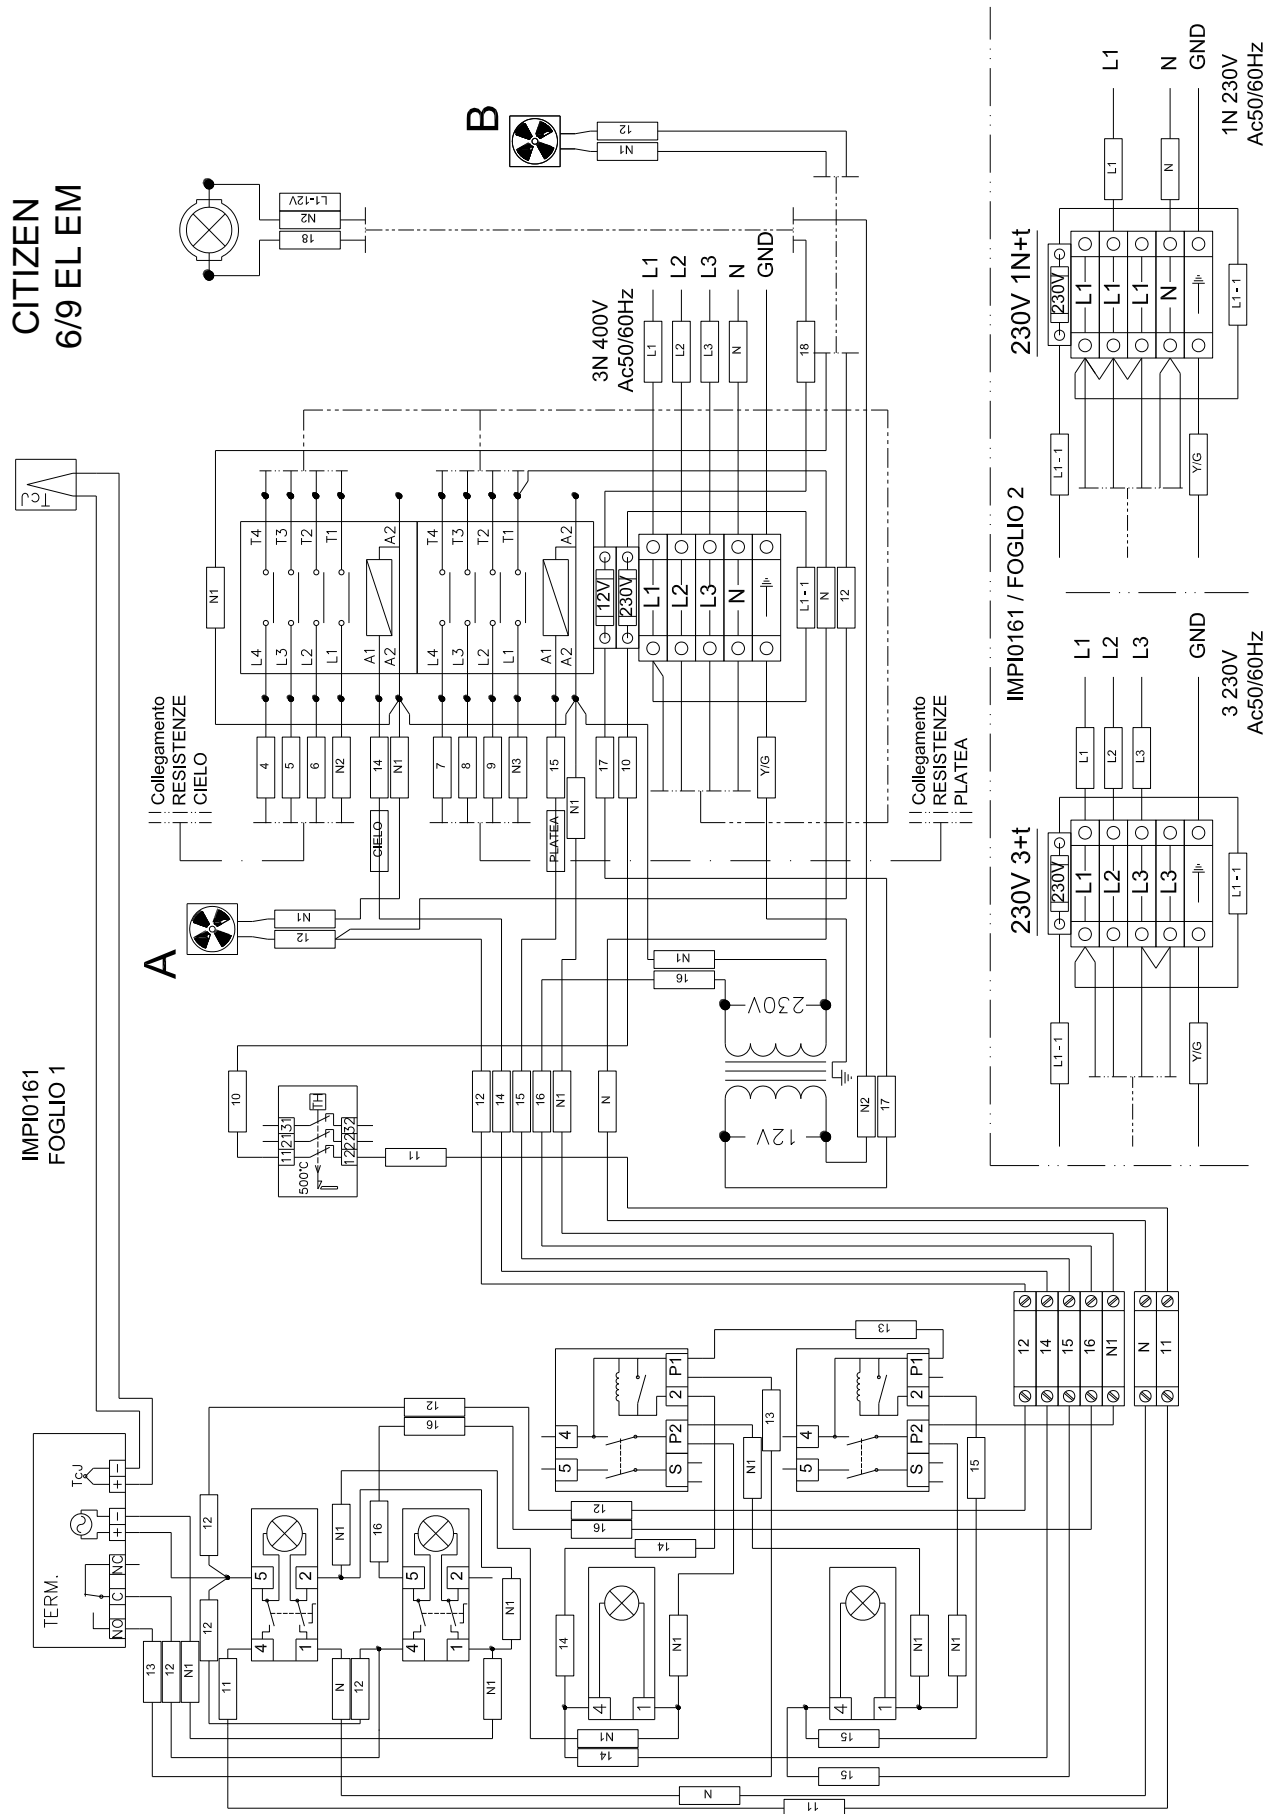
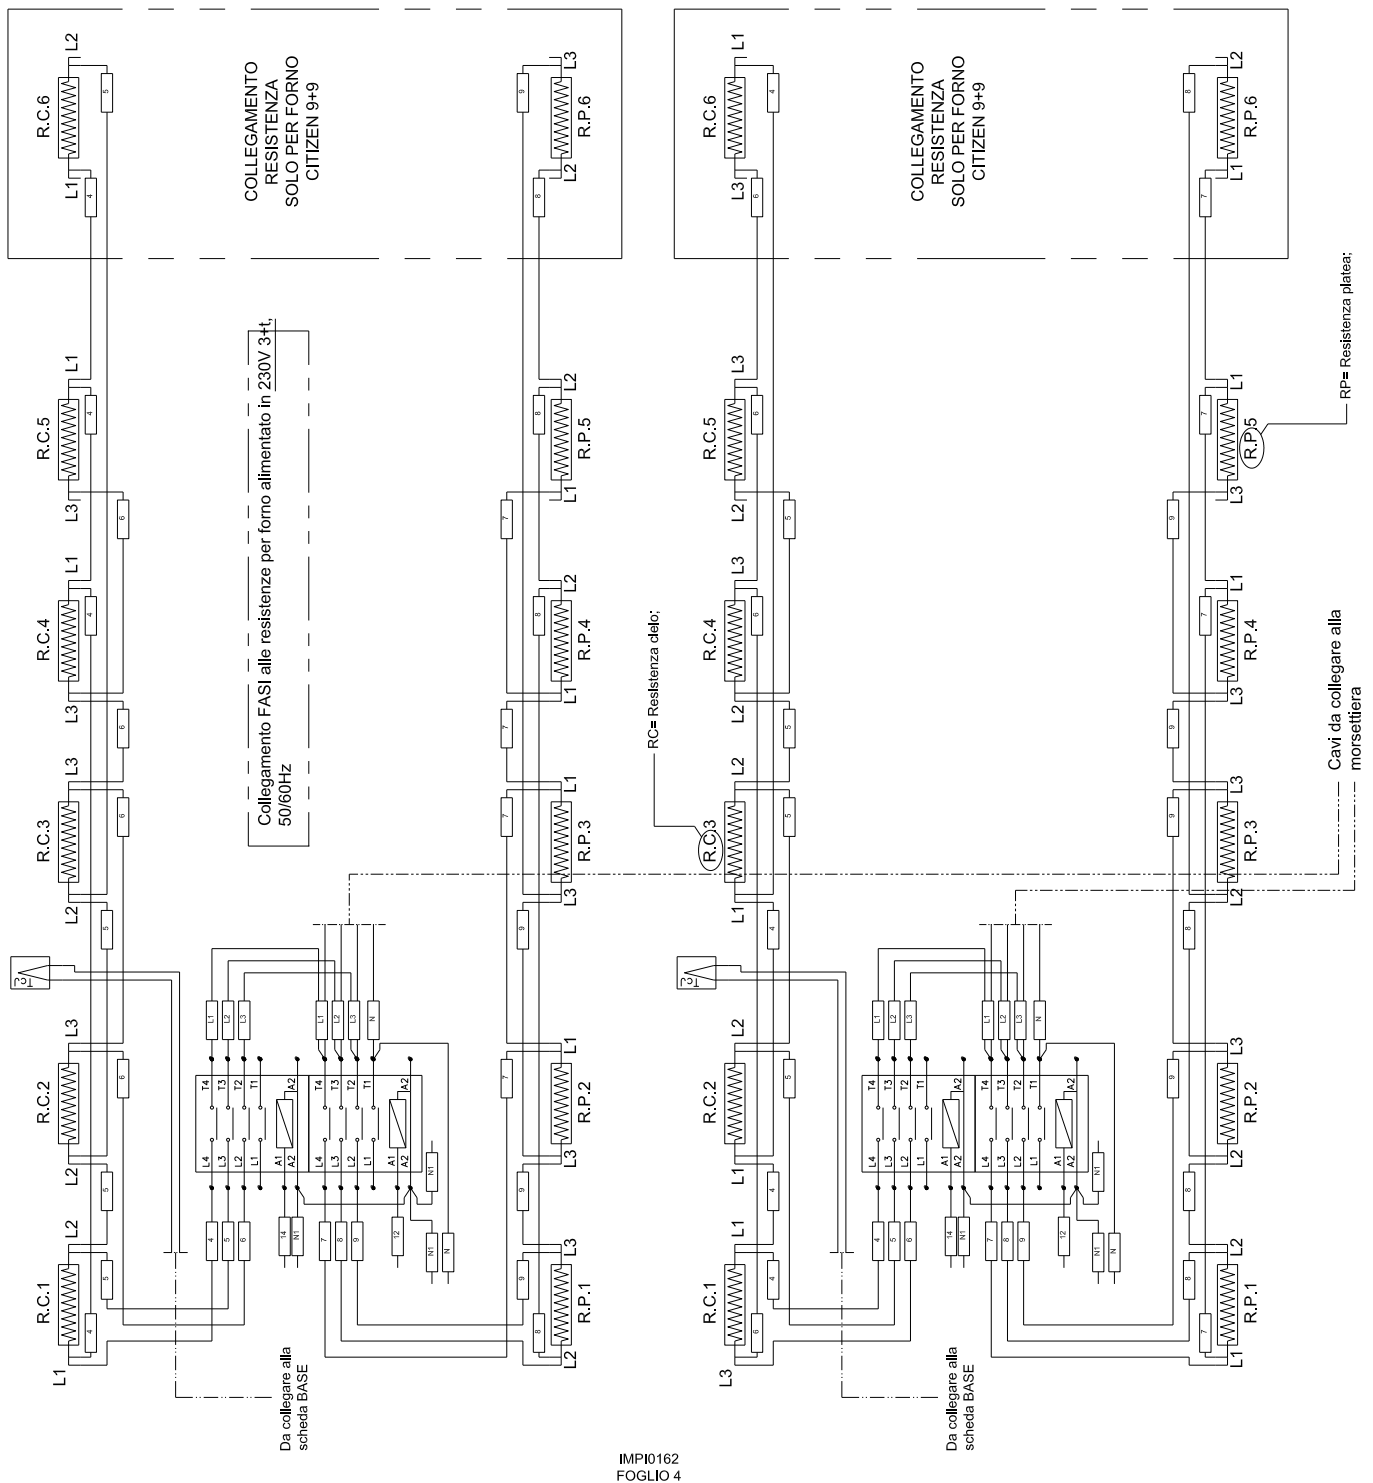

Figure 10.1 Electrical diagram for Citizen PW 6/MC and 9/MC at 400 Vac 3N, 230 Vac. 3, 230 Vac. 1-N
Figure 10-7 Electrical diagram for Citizen PW 6+6/MC and 9+9/MC at 230 Vac 3 (power connection)
Detach the BLUE wire from the lower remote-control switch and reconnect it as shown in Figure 10.1, 10.2, 10.3, 10.4, 10.5, 10.6 and Fig.10.7 depending on the voltage.
**N.B.** For the version at 230Vac 1-N of the double chamber ovens Citizen PW 6+6/MC and 9+9/MC, see paragraph 8.4 and the wiring diagram Fig. 10.1, 10.4 taking the following into account: front cooling fan (A) connected to the top chamber, back cooling fan (B) connected to the bottom chamber.